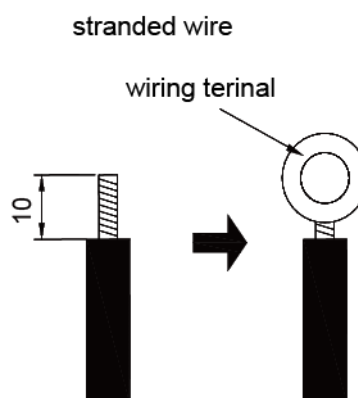

Fig. 5.2
- (2) Connect stranded wire (as shown in fig. 5.2).